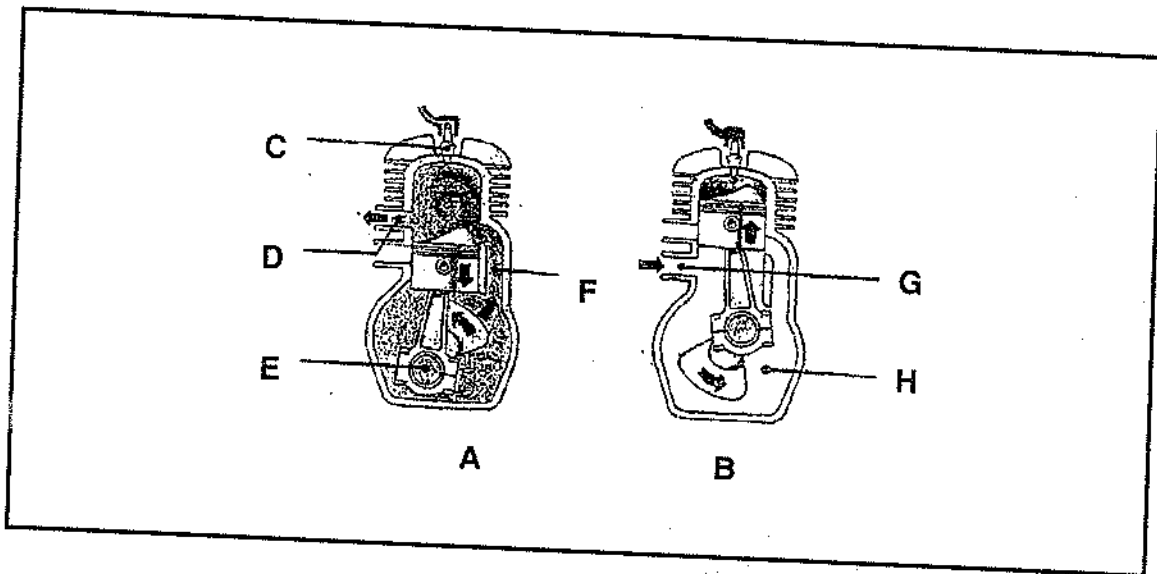

FIGURE 3
2.1 Study the two sketches of a two-stroke engine in FIGURE 3 below and answer the questions.
2.1.1 Name the parts illustrated by **A** and **B** in FIGURE 3 in the ANSWER BOOK. (2)